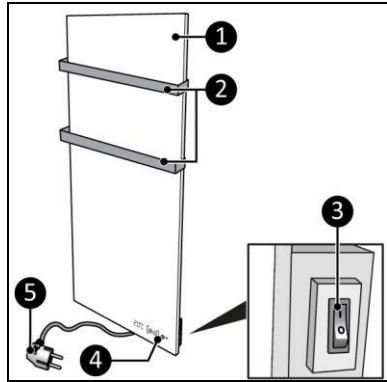
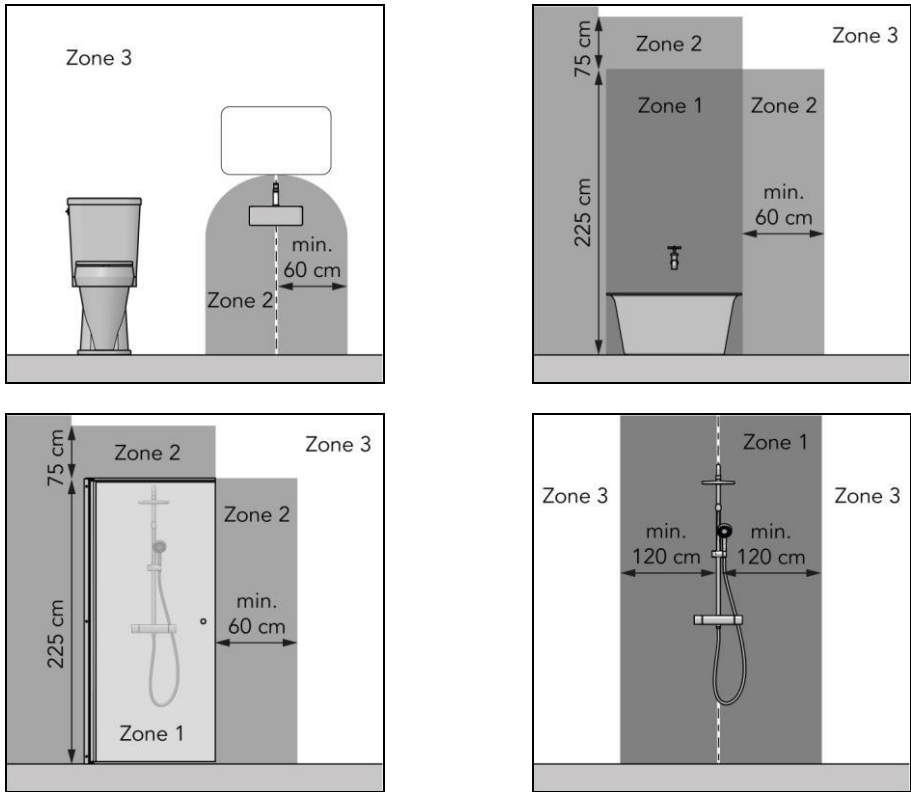

Figure 5
Figure 7
The Sani Wi-Fi (Figure 5) is an easy-to-use electric bathroom heater for use in zone 3 of the bathroom (Figure 7). The Sani Wi-Fi can be used with the Eurom Smart App.
- in zone 3 of a toilet room or bathroom with a bath, shower with screen and shower without screen (Figure 7);